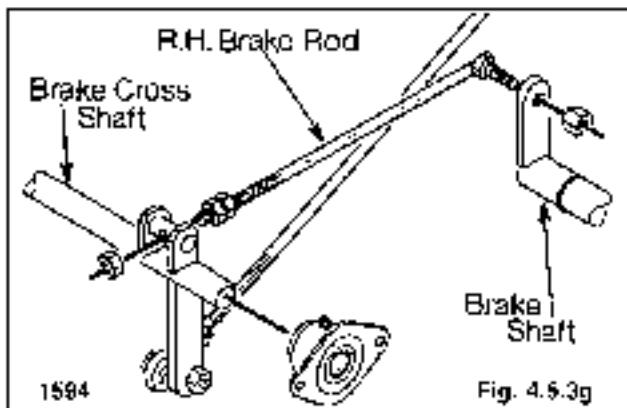

Fig. 4.5.3g
11. Remove the R.H. and L.H. brake rod from the brake shafts and the brake cross shaft (fig. 4.5.3g).